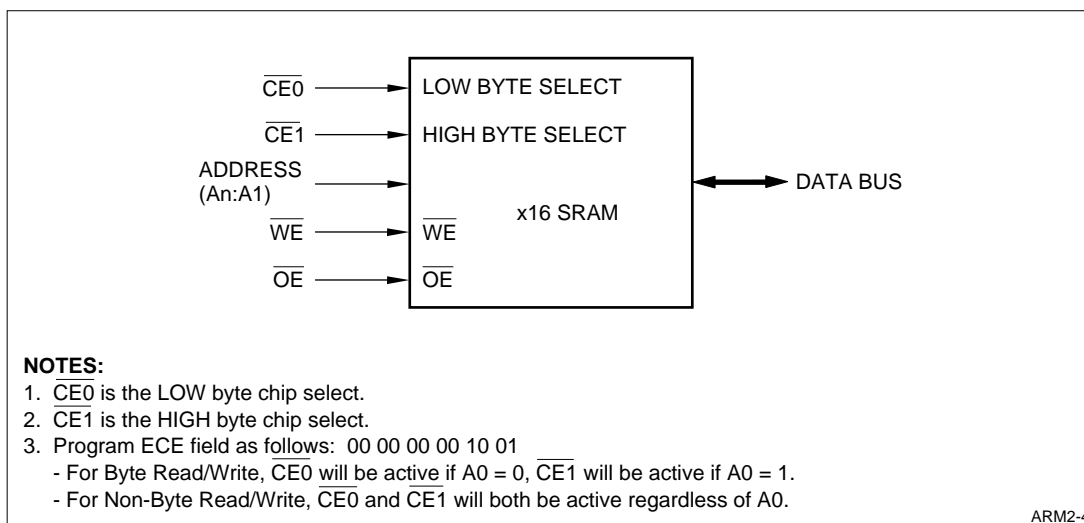

Figure 5-3. ECE Example
These 12 bits control the six external $\overline{\text{CE}}/\overline{\text{CAS}}$ pins. For SRAM, these pins will be used as $\overline{\text{CE}}$ pins. Each pin is controlled by 2 bits from ECE field to support byte enables on x16 SRAMs as shown in Figure 5-3. Each $\overline{\text{CE}}$ pin can be enabled for low byte, high byte, or both depending on address bit0 (A0), external memory bus size (MS) and access type (Byte, Half-Word, or Word Loads and Stores) as shown in Table 5-11.